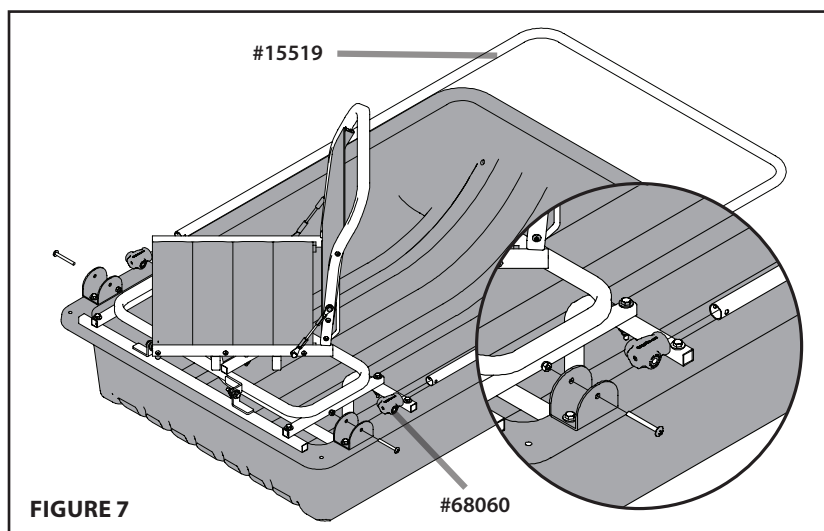

FIGURE 7
7. [FIGURE 7]
Assemble pocket pole cap (#68060) to frame pole (#15519). Push pole cap onto the end of the frame pole—the hole pattern on both parts must line up. Using (2) ¼ - 20 x 2 ¼" PTH (#69279), and (2) Nyloc nuts (#67538), assemble part (#15519) frame pole and part (#21980) hinge as shown in Figure 7.